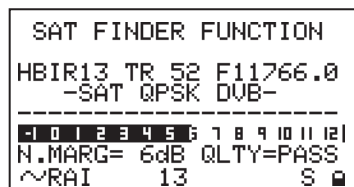

Fig. 11.1 Sat Finder: when the satellite is found a buzzer sound will start.
- The display will change and will show the Noise Margin measurement with a graphic bar and a numeric value. See fig. 11.1.